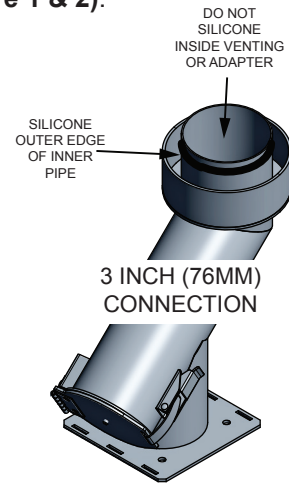

Figure 1
1. Apply high temperature silicone sealant to the outside of the appropriate size connector at the top of the Vent Adapter (C1) (Figure 1 & 2).